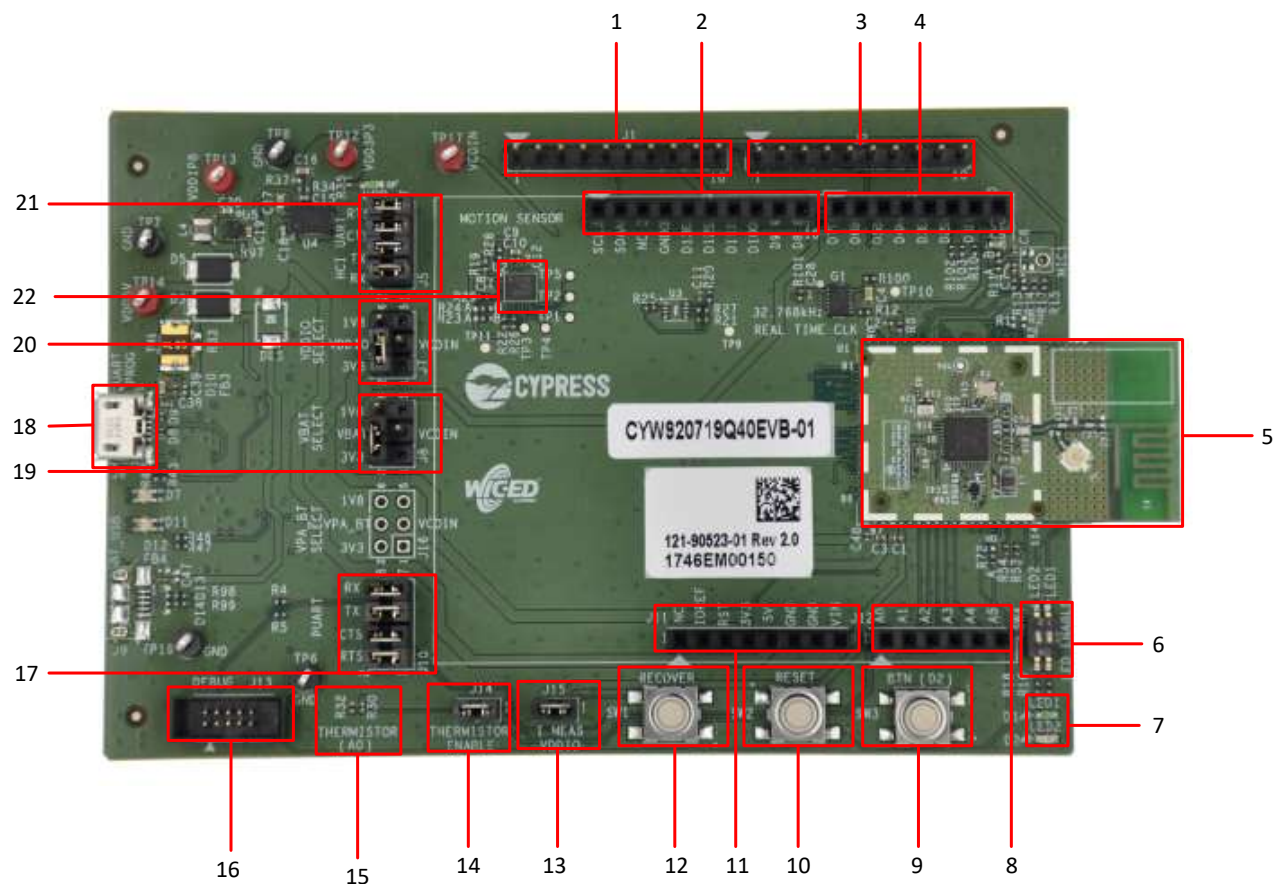
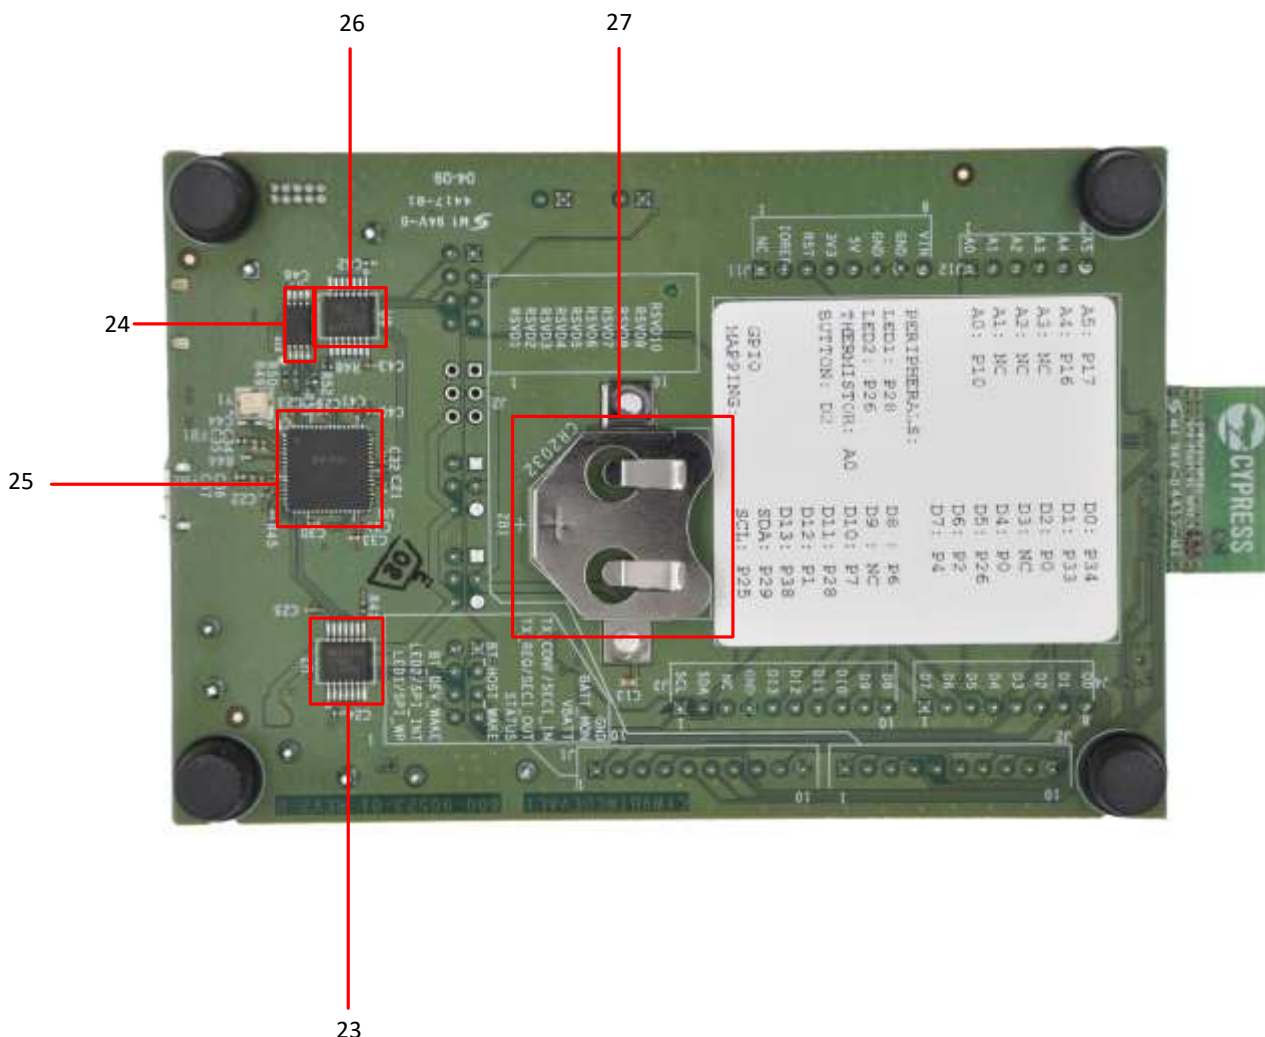

Figure 3-3. CYW920719Q40EVB-01 Evaluation Board
Figure 3-4. CYW920719Q40EVb-01 Evaluation Board (Back View)
- Automatically, by pressing button **SW 3** (see Figure 3-3) on the WICED evaluation board (**Allow Notifications** must be selected from the **Value** drop-down list to allow automatic notifications).
- ☐ The Hello Configuration read-write characteristic is used to configure the number of times an LED on the evaluation board blinks (see Figure 3-3) when the value is changed and whenever button **SW 3** is pressed.
2. Press button **SW 3** on the WICED board (see Figure 3-3). The Hello X message is displayed in the **Value** field. Each time the button is pressed, the message number increments.
2. Press button **SW 3** on the WICED board (see Figure 3-3). The LED on the board again blinks five times.
Figure 3-3 and Figure 3-4 show the markup of the CYW920719Q40EVB-01 board. See the list below for a description of the numbered items.